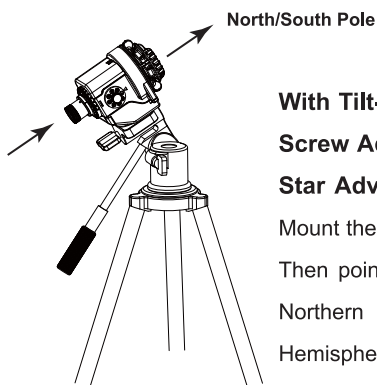

Fig8
**With Tilt-head/ Ball-head:** Make sure the **1/4" to 3/8" Convert Screw Adapter** is in the 3/8" threaded socket at the bottom of the **Star Adventurer**. If it is not, use an Slot Screwdriver to install it. Mount the **Star Adventurer** to the quick release plate on the tripod. Then point the Polar Scope to the direction of the North Pole (For Northern Hemisphere observing) or South Pole (For Southern Hemisphere observing) (Fig 8). Then complete the Polar Alignment process (Please see **Polar Alignment** session for reference).